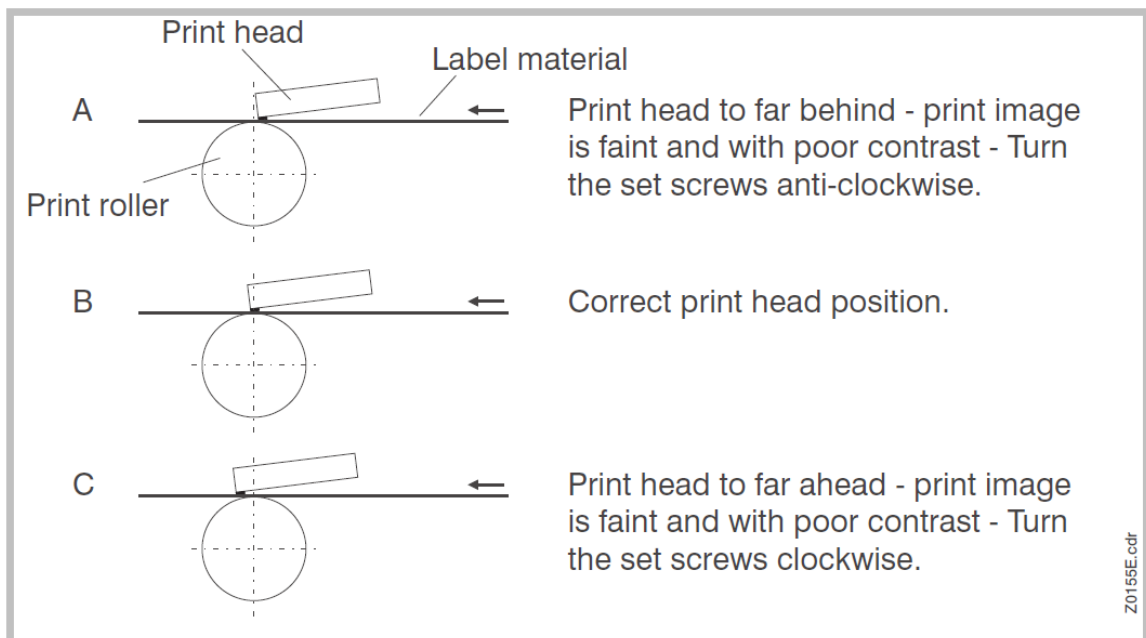

Fig.2 Alignment Position.
In unscrewing the grub screws (C), the print quality can actually deteriorate. The aim of the balancing is to align the printhead with the highest point of the roller (see Fig.2).